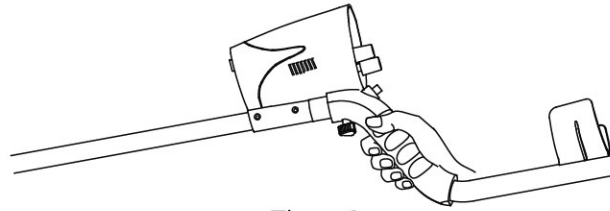

Figure.2
- Align the threaded bolts at the handle bottom, with the knobs under the control box, lock it with the bolts (Figure.2).